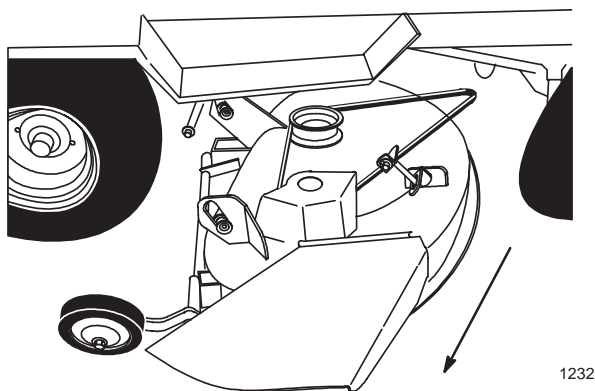

Figure 15
8. Turn the front wheels fully to the left and raise attachment lift lever all the way to the latched position; refer to tractor Operator's Manual. Slide the mower out from under the chassis to the right side (Fig. 15)